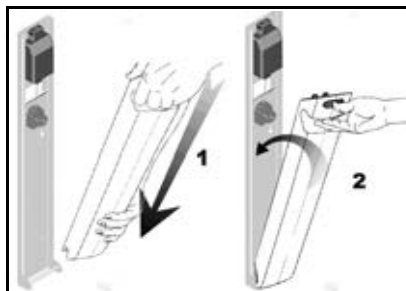

Fig. 2
- 1) Insert the battery pack into the charger unit and push it in firmly (see Fig. 2).